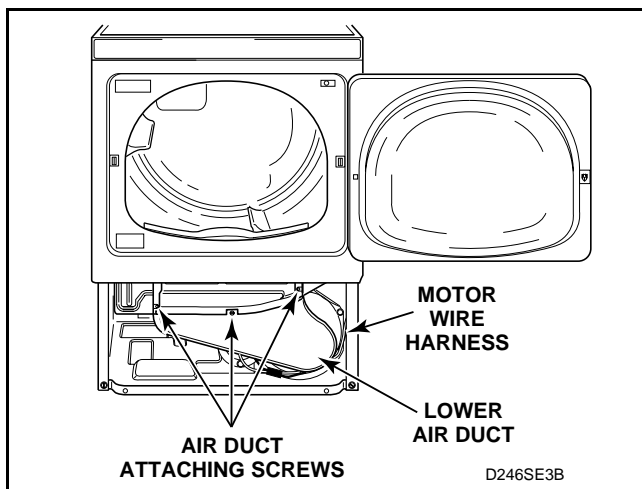

Figure 17
- Remove three screws holding lower duct to upper duct and remove lower air duct. See *Figure 17*.
- d. Remove screws holding lower air duct to upper air duct and remove lower air duct. See *Figure 17*.